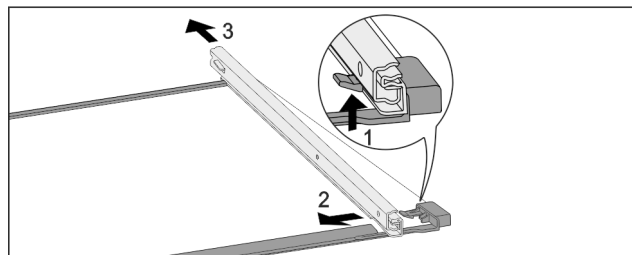

Fig. 177 Glass shelf with rails
- Push up front click-in hooks. *Fig. 177 (1)*
- Move the pull-out rails to the side *Fig. 177 (2)* and to the rear *Fig. 177 (3)*.